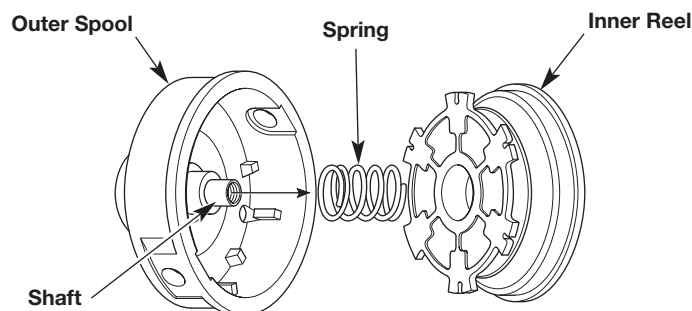

Fig. 12
3. Remove the inner reel from the outer spool (Fig. 12).
4. Remove the spring from the inner reel (Fig. 12).